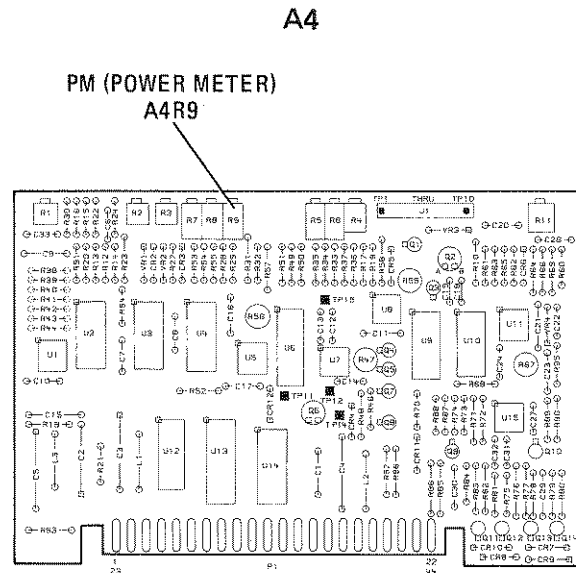

Figure 5-33. Power Meter Adjustment Location
3. Increase the 83525A power level until the 432A power meter reaches full scale deflection (approximately $+6$ dBm). Adjust **A4R9 (PM)** (Figure 5-33) until the 436A Power Meter indication is equal to the plug-in front panel readout minus the power splitter insertion loss noted in step 1 (approximately 6 dB).